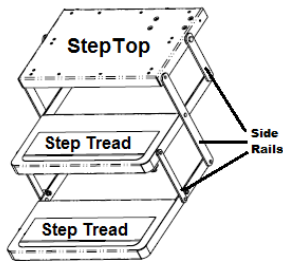

Figure 1 Frame components
- Use 3/4" step frame repair kit #909538000 for side rails to step tread connections. (See Figure 1)
- Use 5/8" step frame repair kit #909538100 for side rails to step top connections. (See Figure 1)